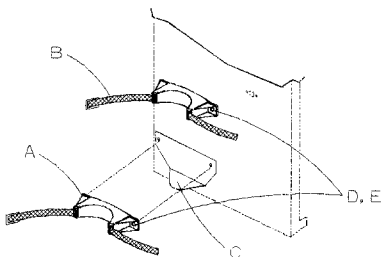

figure 1. Uni Cart
For Uni Cart: Attach Brackets (A & C) to Uni Cart, using #14-10 X 5/8" screw (D) and washer (E) tighten with a 3/8" wrench. See figure 1.